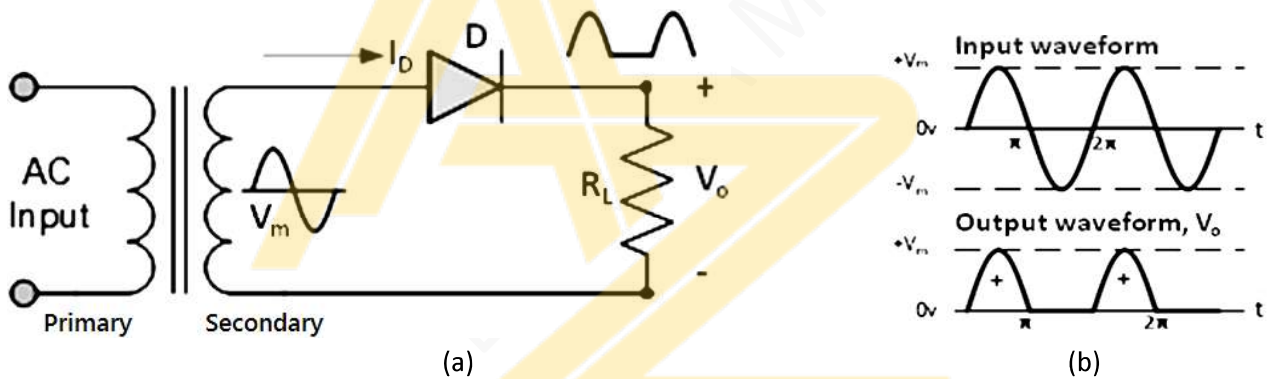

Fig. 1.9 (a) Half wave rectifier circuit
Half wave rectification is carried out by a step-down transformer and a diode as shown in fig. 1.9(a).
- Therefore, it conducts for $0 \leq t \leq \pi$. See fig. 1.9(b).